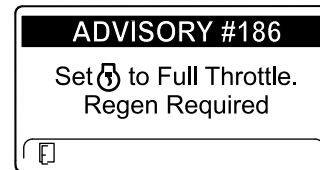

Figure 42
**Note:** If the engine exhaust temperature is too low, the InfoCenter displays ADVISORY #186 (Figure 42) to inform you to set the engine to full throttle (high idle).